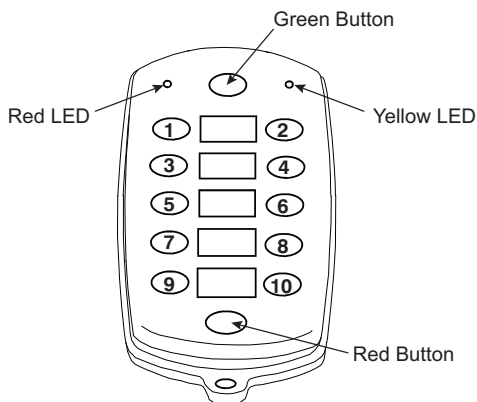

Figure 1
2. Prepare the transmitter by pressing the transmitter buttons in the following sequence. See Figure 1.